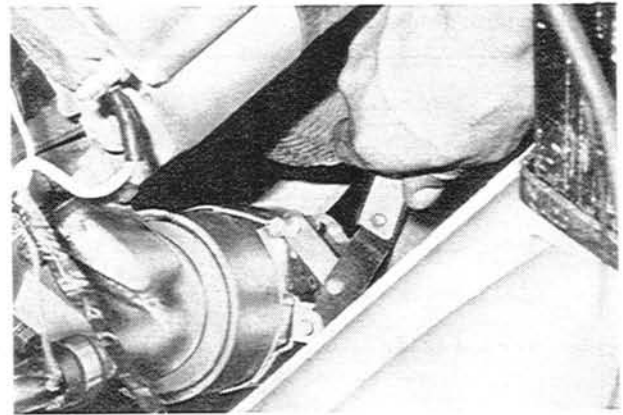

Fig. 2-10 Replacing of oil filter
1. Remove the oil filter cartridge with a wrench as shown in Fig. 2-10.